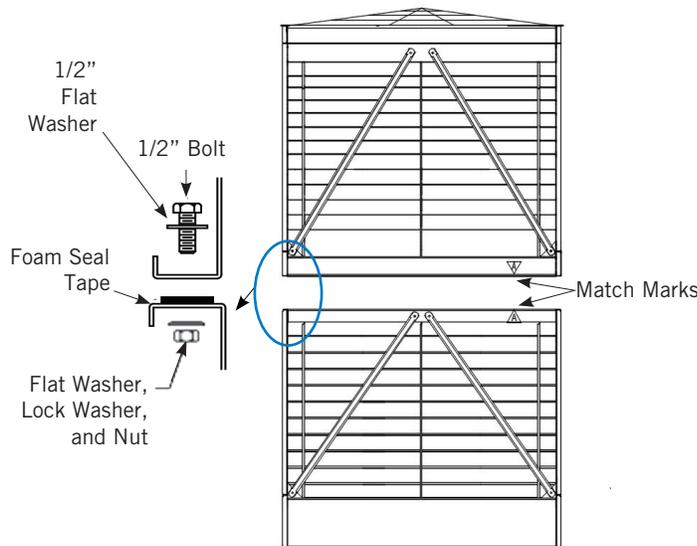

Figure 3. Upper and Lower Assembly for Series 5000 Cooling Towers
4. Install foam seal tape (BAC part # 270175) supplied with the unit, as illustrated in **Figure 3**, on the mating flanges of the lower section in a continuous line. At each corner, allow 1" overlap.
- Match marks must line up as shown in **Figure 3**.
3. Install foam seal tape (BAC part # 270175) supplied with the unit, as illustrated in **Figure 3**, on **page 5** on the mating flanges of the lower sections in a continuous line. At each corner, allow 1” overlap.
- Match marks must line up as shown in **Figure 3** on **page 5**.